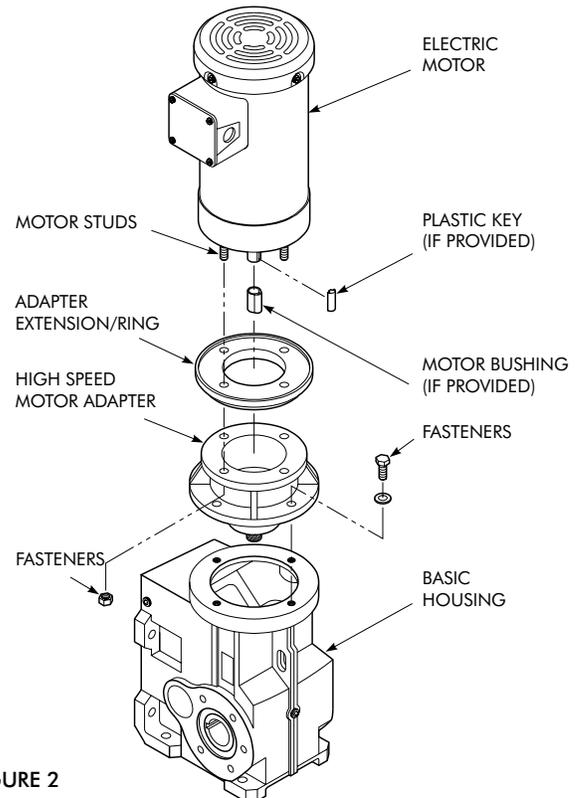

FIGURE 2
#### PROCEDURE G & H — Figure 2
- Place basic housing on a workbench so that high speed end is facing up as illustrated in Figure 2. If necessary, block housing so that it is stable and level.
#### PROCEDURE G & R — Figure 2
1. Place basic housing on a workbench so that high speed end is facing up as illustrated in Figure 2. If necessary, block housing so that it is stable and level.